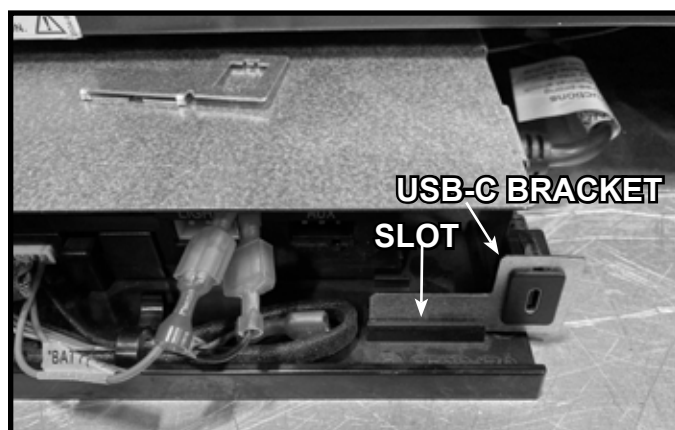

Figure 3
7. Remove the USB-C plug from the kit manual bag and insert it into the USB-C bracket. Attach the USB-C bracket to the component tray by placing it in the slot as noted in Figure 3.